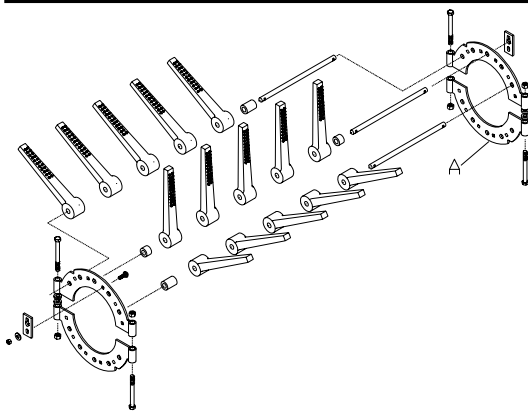
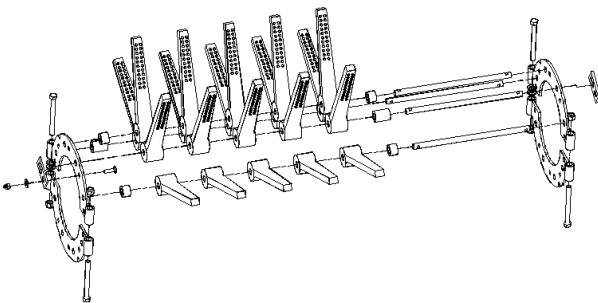

Figure 17 - Rubber Flail Cluster (6 Pin).
Figure 18 - Steel Flail Cluster (8 Pin).
To adjust rubber flail clusters to row spacing, see Figure 17 and Figure 18. Loosen the disc clamp plates (A); slide clusters so they are exactly centered on the row. Retighten the disc clamping plates, making sure the gap between the plates is equal and in line with the other clusters.
To replace flails, see Figure 17 and Figure 18